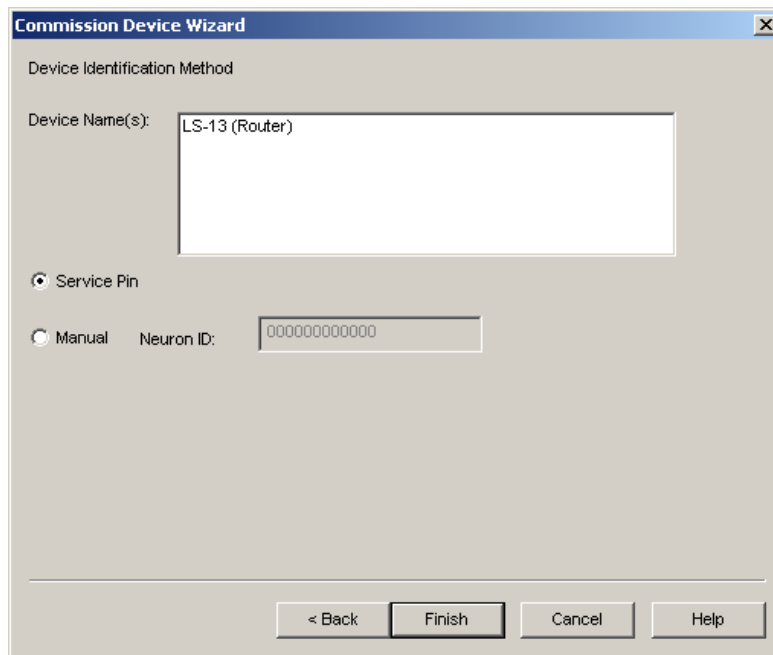

Figure 12: Either enter the Neuron ID manually or select Service Pin
6. In the next dialog either enter the Neuron ID manually or choose “Service Pin”. Select “Next>” (see Figure 12).